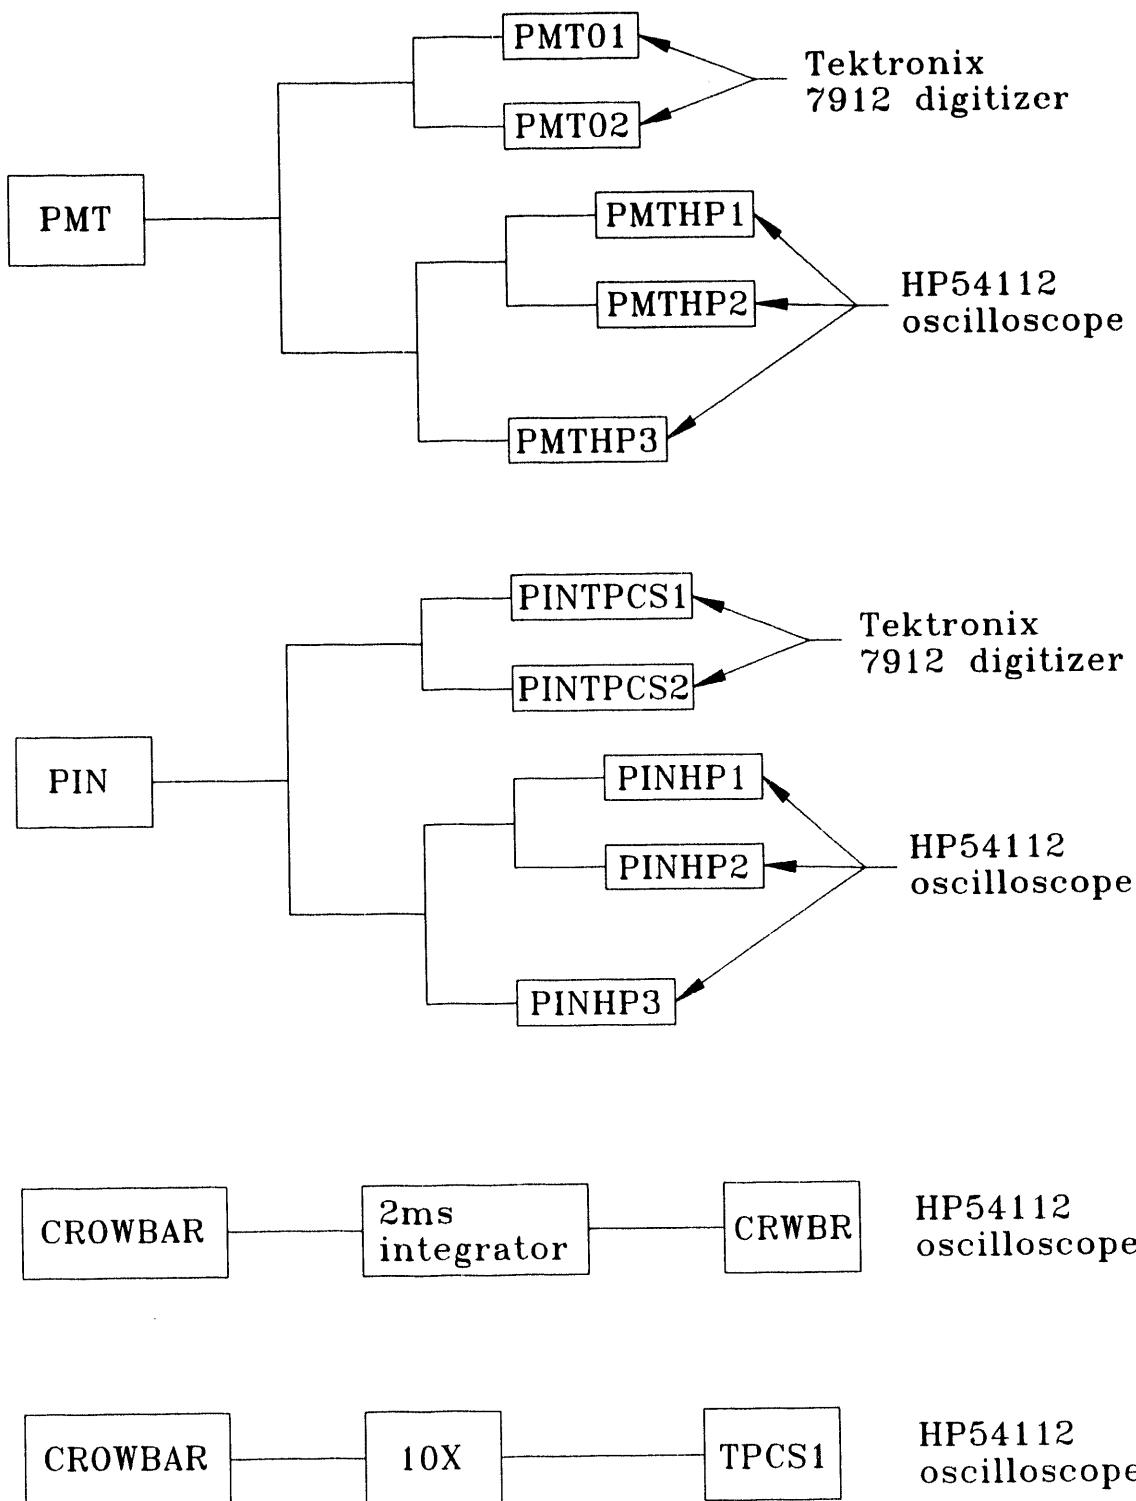

Figure 12: TPCS Signal Maps
1. Request a total of four (4) signal cables be run from the TPCS to the Facility DAS. These cables will be used to transmit the signal from the PMT, PIN Detector, Pearson Current Transformer, and the TPCS Capacitor Bank Crowbar Current Monitor. (note- *The PIN Detector signal cable will also act as the bias supply cable for the PIN Detector. A bias tee will be required to prevent the biasing voltage from being "seen" at the input to the recording instrument.*)
3. Have the signal cables connected to the recording instruments as illustrated in the signal maps, refer to figure 12, by DAS personnel.